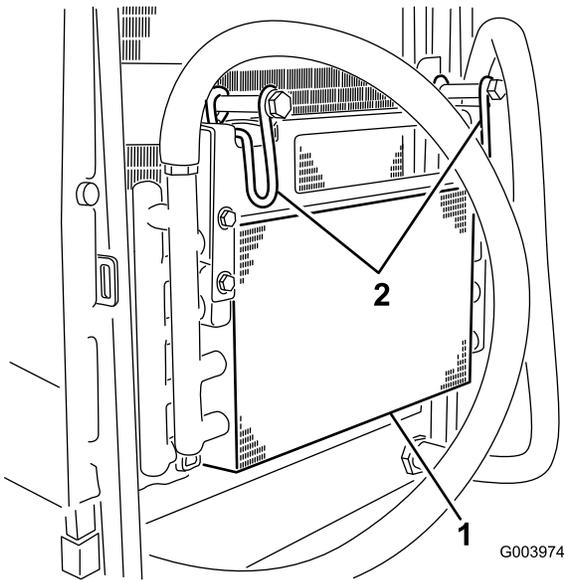

Figure 60
6. Pivot the latch inward to release the oil cooler (Figure 60).